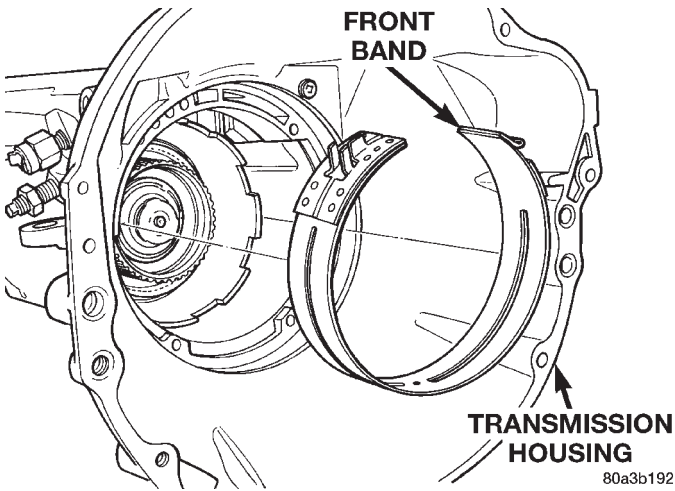
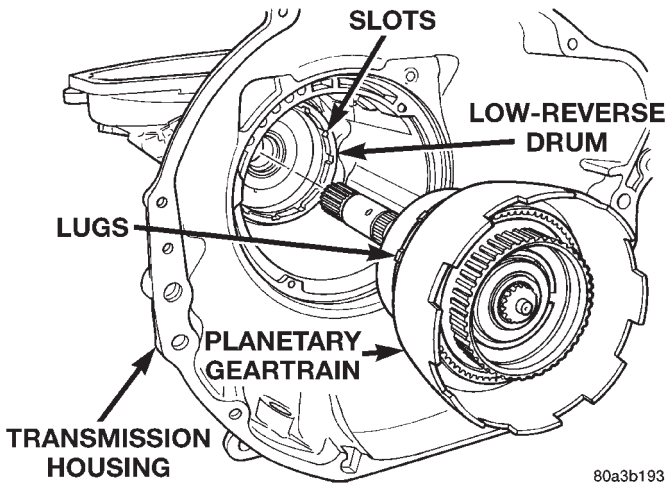

Fig. 78 Front Band
Fig. 79 Planetary Geartrain
- (22) Remove front band from case (Fig. 78).
- (23) Remove extension housing from transmission case.
- (24) Remove governor body and park gear from output shaft.
- (25) Remove output shaft and planetary geartrain as assembly (Fig. 79). Support geartrain with both hands during removal. Do not allow machined surfaces on output shaft to become nicked or scratched.